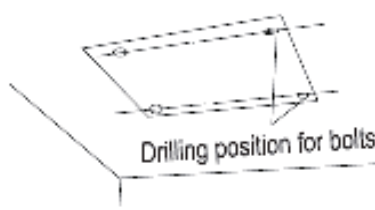

Figure 3-1-40
- (1). Using the installation template, drill holes for bolts (four holes). (Figure 3-1-40)